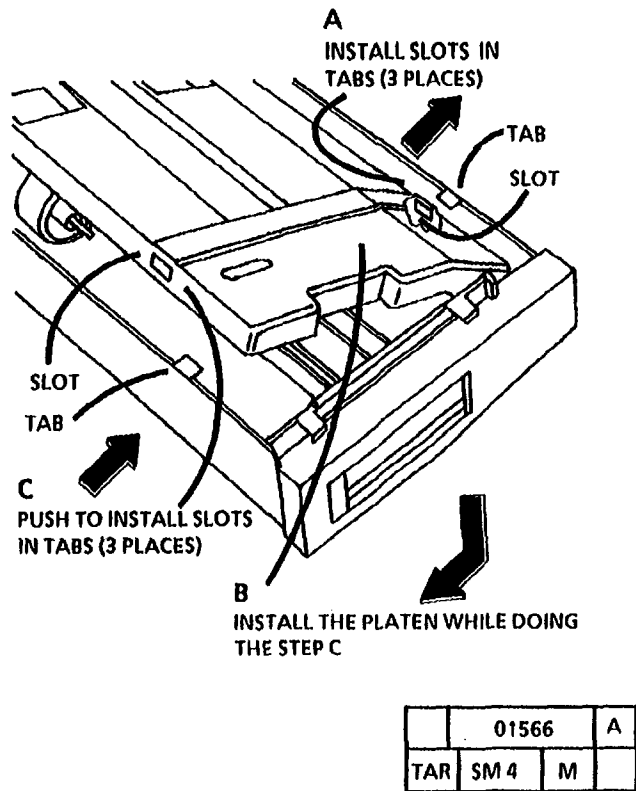

Figure 3. Install the Document Platen
1. (Figure 3): Install the Document Platen.